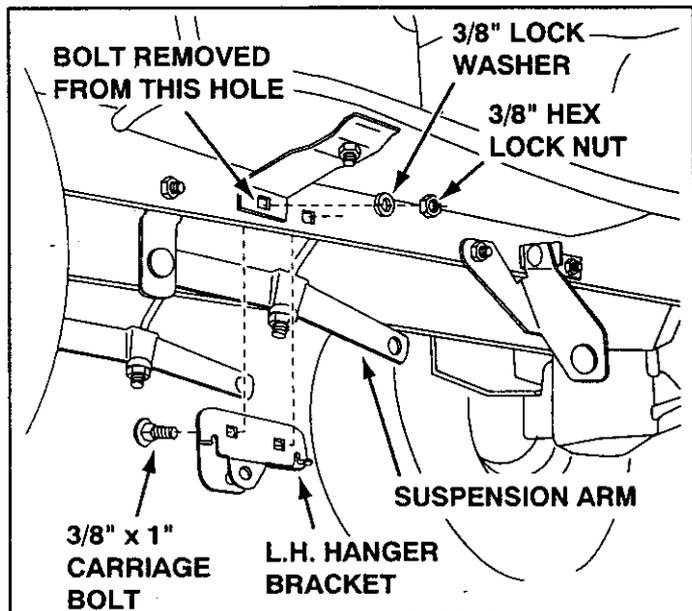

FIGURE 4
INSTRUCTIONS FOR TRACTORS WITH FOOT REST BRACKETS UNDER THE FOOT RESTS (Figure 4.)
- Remove and discard the bolt and nut from the L.H. foot rest bracket and the side of the tractor frame as shown in figure 4. Repeat for the R.H. bracket. **HINT:** If the tractor's suspension arms are in the way, lower them using the attachment lift lever.
- Using the now empty hole and the hole beside it, attach the L.H. Hanger Bracket (marked "L") to the inside of the tractor frame. Use two 3/8" x 1" carriage bolts, 3/8" lock washers and 3/8" hex lock nuts, making sure the bolt heads are on the inside of the tractor frame. Repeat for the R.H. side. See figure 4.